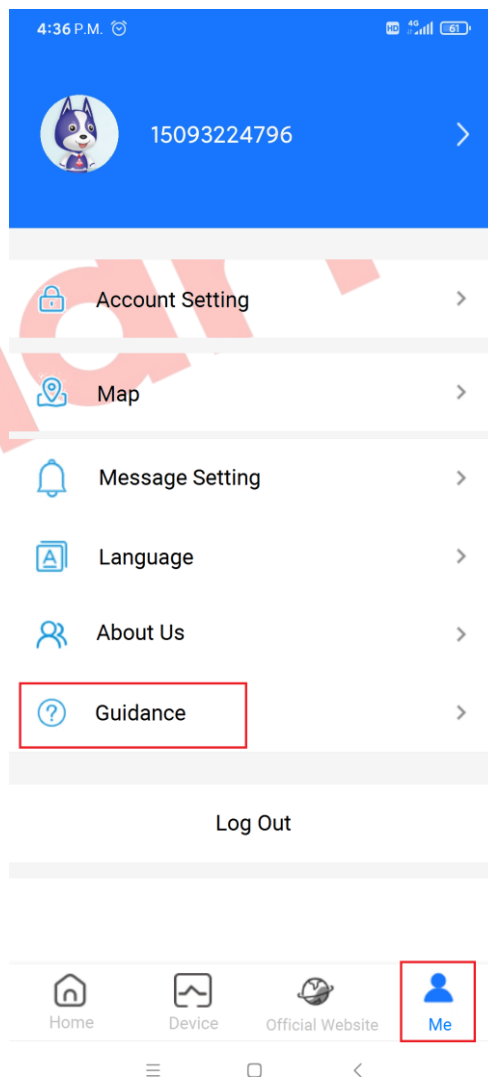

Fig. 18 – APP Display Interface
- 3) Other related settings please refer to “Me-Guidance” (as Fig. 18).